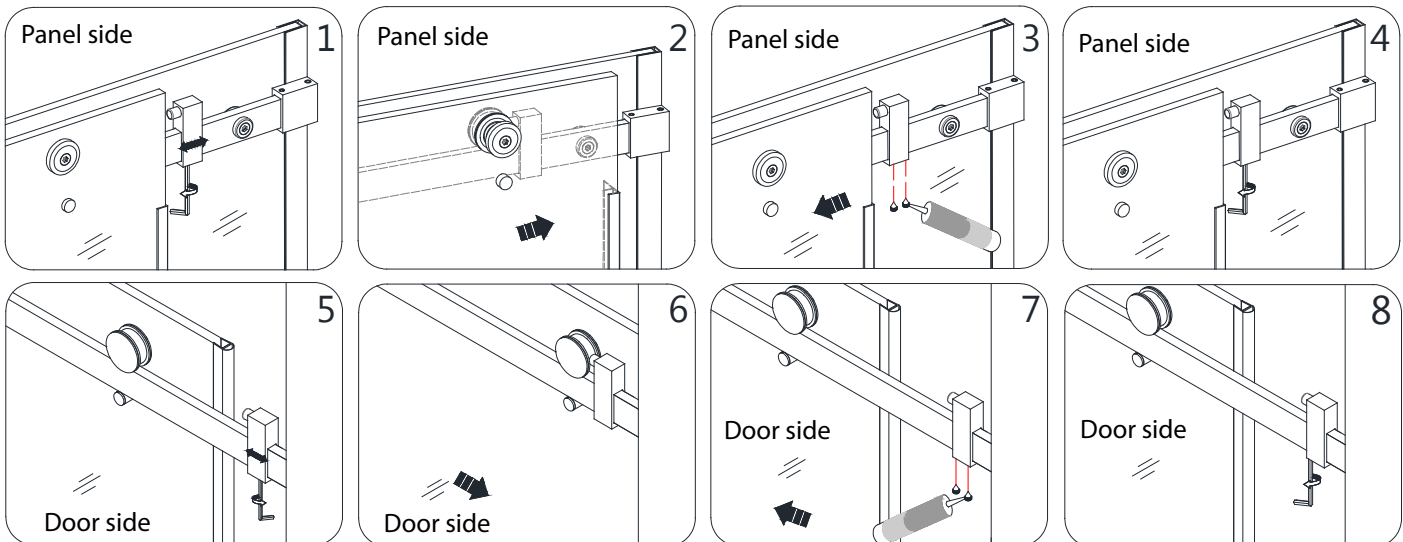

Fig 36b
4. Reinsert the set screws into the **Stopper (#05)** and fully tighten. **(Fig 36b)**